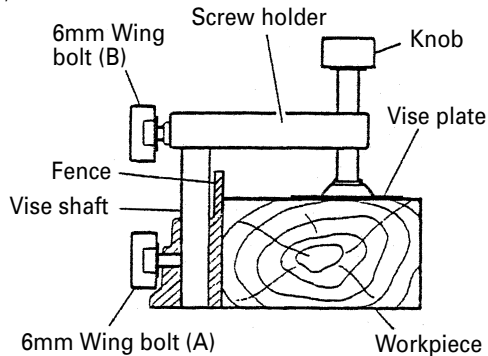

Fig. 20
- (1) The vise assembly can be mounted on either the left fence {Fence (B)} or the right fence {Fence (A)} by loosening the 6mm wing bolt (A).
- (2) The screw holder can be raised or lowered according to the height of the workpiece by loosening the 6mm wing bolt (B). After the adjustment, firmly tighten the 6mm wing bolt (B) and fix the screw holder.
- (3) Turn the upper knob and securely fix the workpiece in position (Fig. 20).